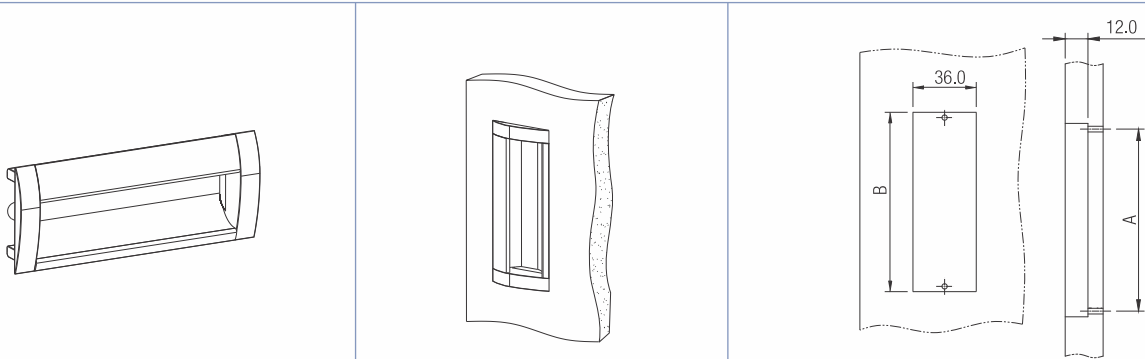

Fig.1
1. Make slot of 36 mm width and for Length & screw center Refer Distance A & B.(Ref. Fig.1).